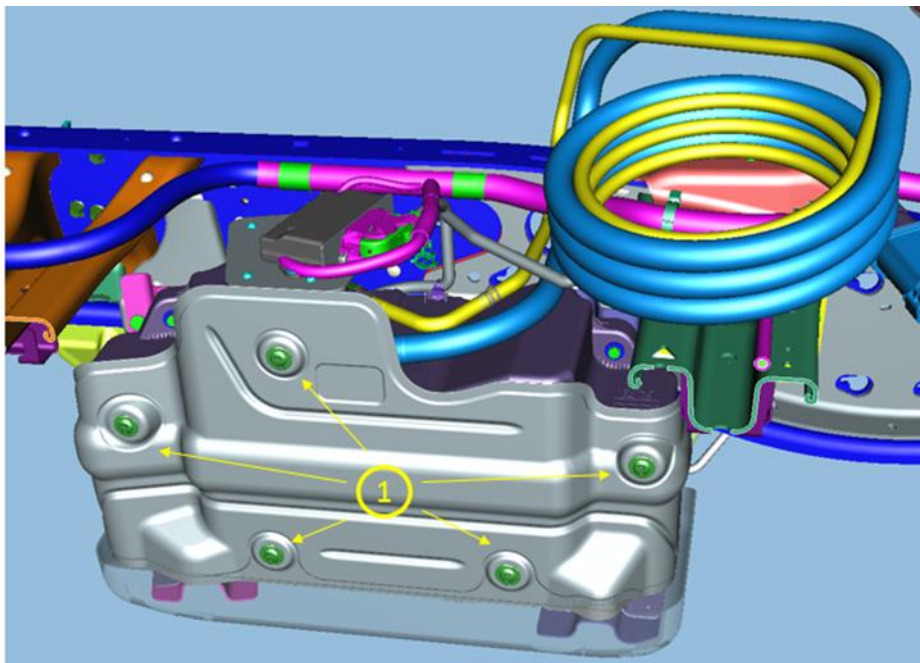

Figure 15
21. Install Heat Shield using Retainers (x5) (figure 15)